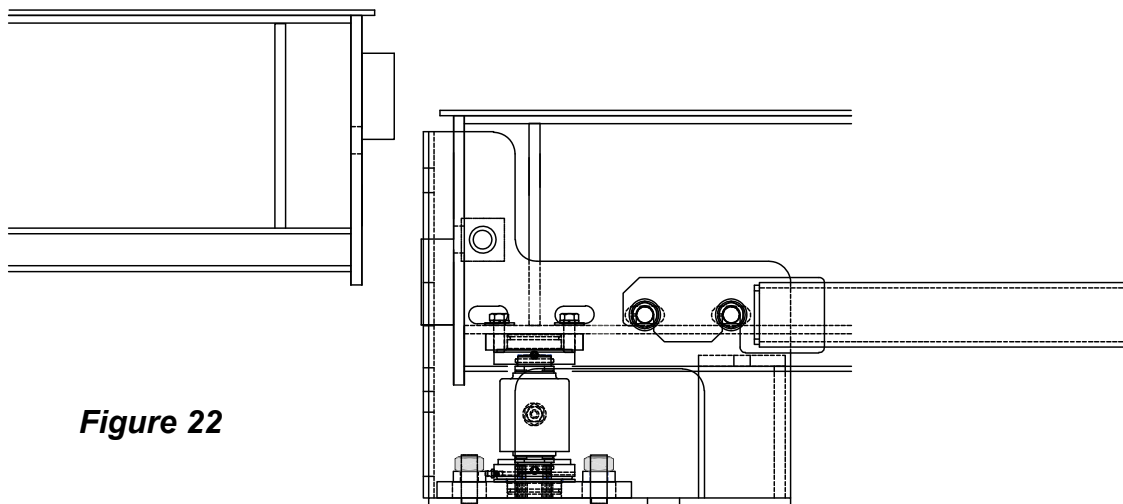

Figure 22
11. Disconnect module connection. Remove jam nut, hex nut, and washers from 1 1/8” – 7 threaded rods. Remove threaded rod. Refer to *Figures 22 and 23*.